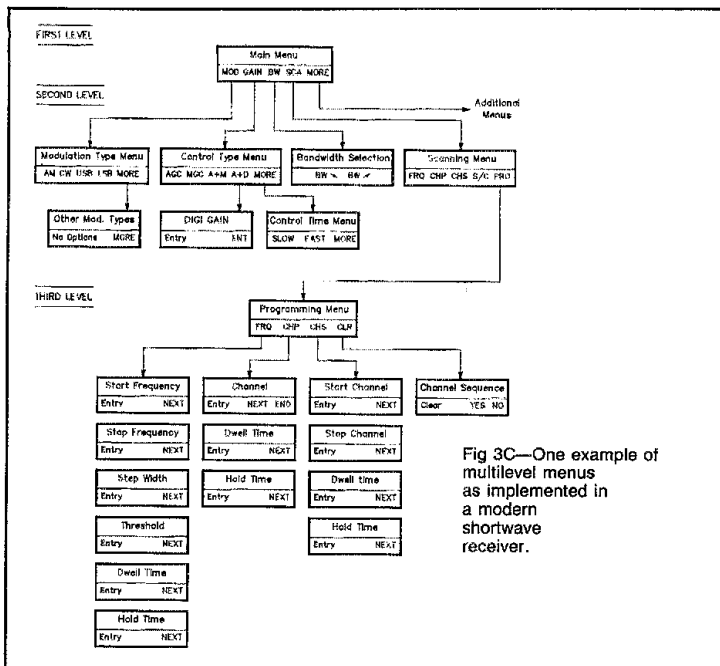

Fig 3C—One example of multilevel menus as implemented in a modern shortwave receiver.
3) Multilevel menus should be provided for easy use and display of all functions. See Fig 3C. This includes not only modes (USB, LSB, CW and so on), but also AGC attack and decay times. All these parameters must be freely accessible and independently selectable.³³
Fig 3B—Enabled by microprocessor control, the keypad and tuning knob interact to allow modification of equipment functions according to multilevel menus (Fig 3C).